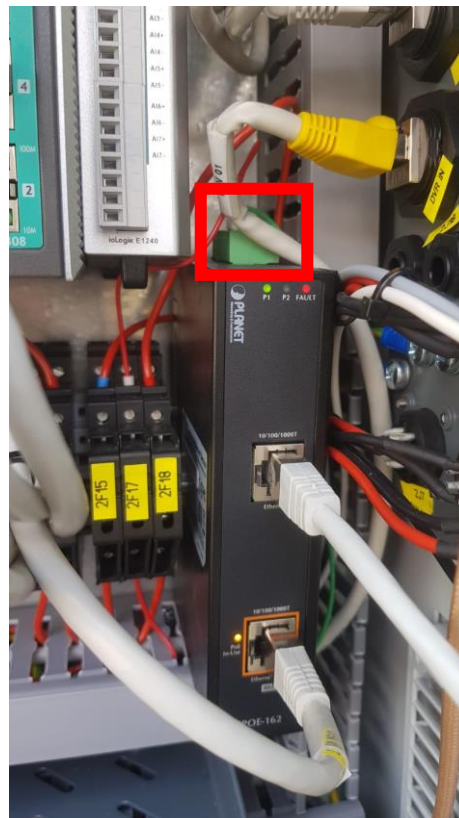

Figure 28 Connect the injector power into the POE+ unit
4. Connect the injector power connection into the POE+ unit (see Figure 28).